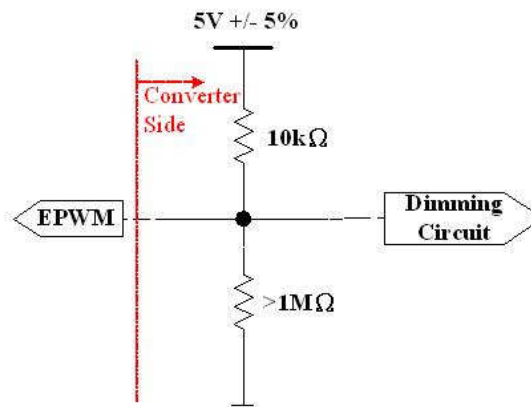

Fig. 2
Note (4) The EPWM interface that inserts a pull up resistor to 5V in Max Duty (100%), please refers to Fig.2.